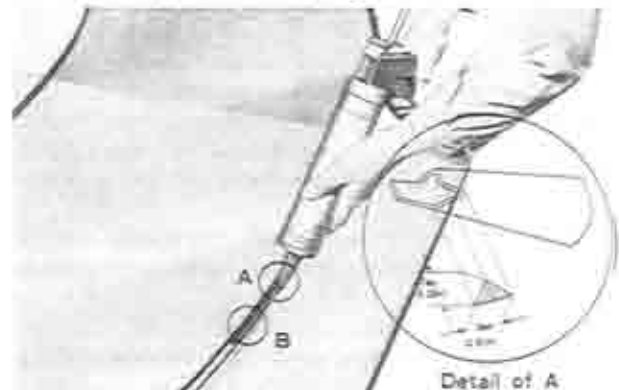

Fig. 14-13 Applying of sealant
it is 8 mm (0.31 in) high along the entire circumference of the window glass with the **sealant gun** (49 0305 872) fitted with a sealant cartridge (see Fig. 14-13). If the sealant comes apart from the painted surface on the body side, use the remainder of the sealant for rectification.
- (a) Shape the nozzle of the sealant cartridge with a cutting knife as shown in Fig. 14-13. Then, break the film of the sealant with a piece of wire and it is ready for application.